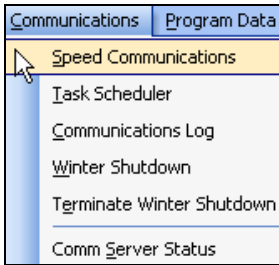

Figure 16.9.1A
1. In the toolbar at the top of the screen select **Communications** then scroll down to **Speed Communications** and click on it (Figure 16.9.1A).